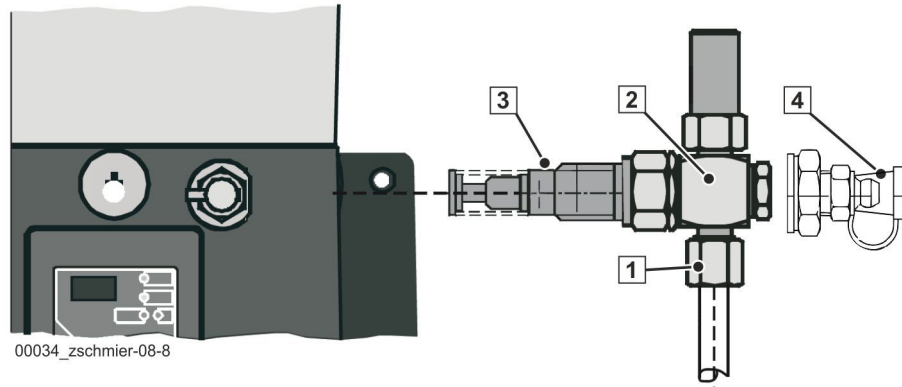

Fig. 480
- Remove the main lines (1) (**Fig. 480**) from the male connector (2) (**Fig. 480**) on the pump elements (3) (**Fig. 480**)
Furthermore, “emergency grease nipples” (4) (**Fig. 480**) are available on the male connectors of the pump elements.